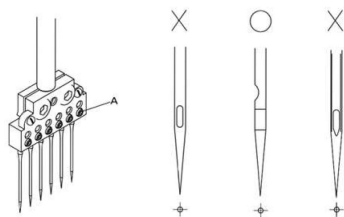

图8 (Fig.8)
1.拧下螺钉(A)并取下针。(图 8)
1.Loosen screw (A) and take out the used needle. (Fig.8)
2.Put new needle into the holder holes as they can go and left the long groove of needle face you and Fasten Screw (A)